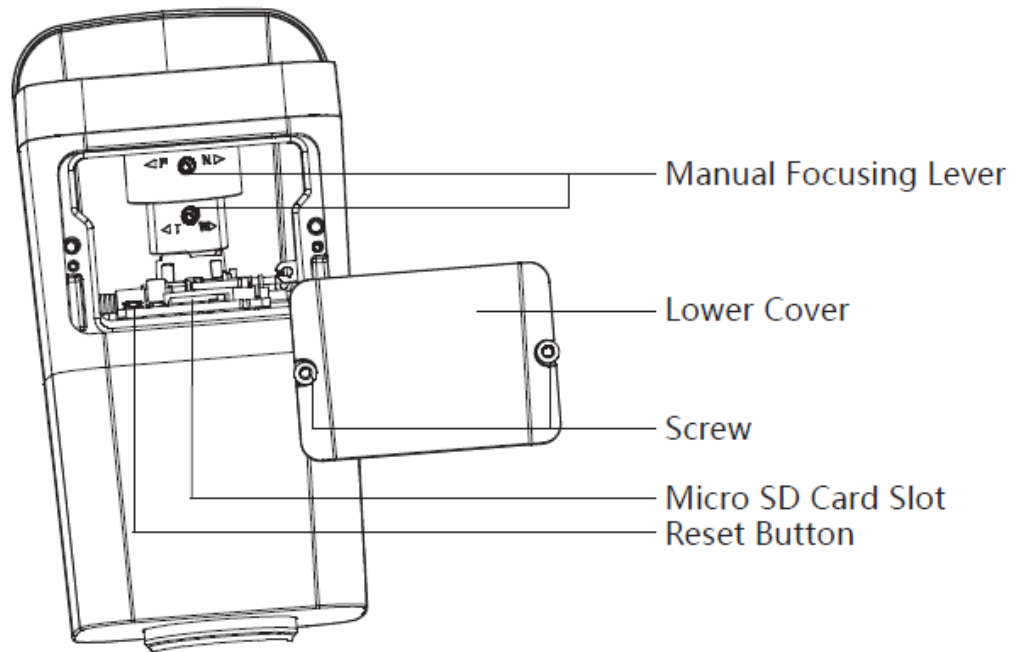

Figure 2-1
**Step 2** Please insert the Micro SD card into the slot which is shown in Figure 2-1, the card slot is elastic so it only needs to press slightly to install the Micro SD card.